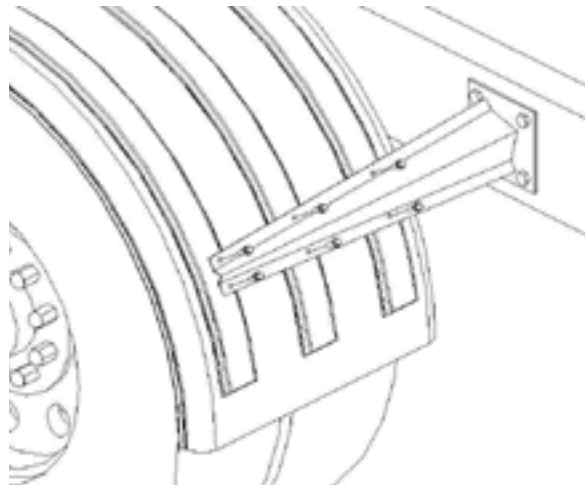

Figure 6
- A. Drill six 5/16" holes thru fender using the holes in bracket PB5010 as a guide. Install the 5/16" x 1" bolts thru the bracket and into the fender. Use six 5/16" body washers and 5/16" nuts provided with kit on the inside of fender. Hand tightening of bolts is suggested. Make sure the fenders are square and aligned. Twists or bows in the fender will fatigue the material over time. See Figure 6.